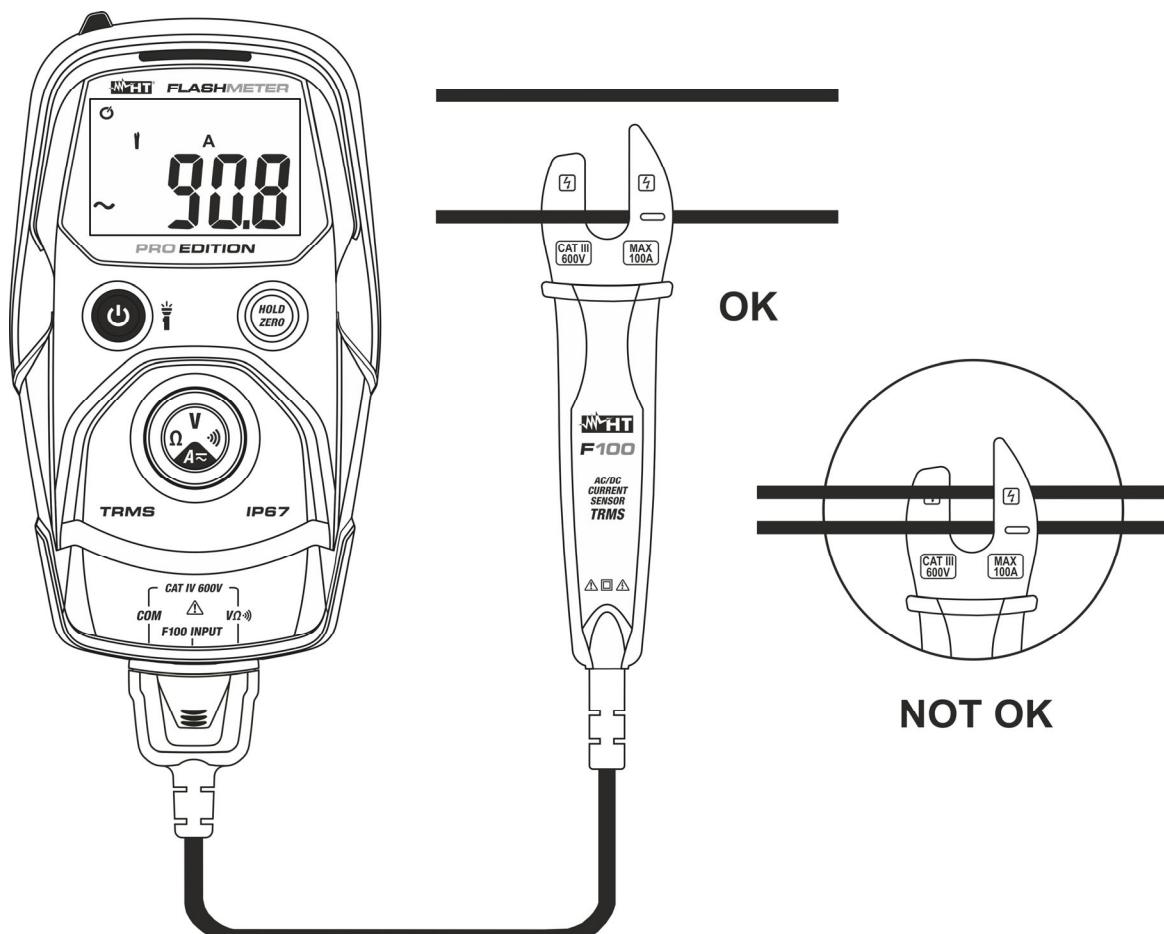

Fig. 7: Use of the instrument for AC/DC Current measurement
- Connect the F100 clamp on the cable under test (see Fig. 7) paying attention to the arrow " \rightarrow " symbol inside the toroid to indicate the positive direction of the current. Positioning the cable in the center of the clamp to obtain an accurate measurement result. The current value is shown on the display
- When symbol "-" appears on the instrument's display, it means that current has the opposite direction with respect to the connection of Fig. 7